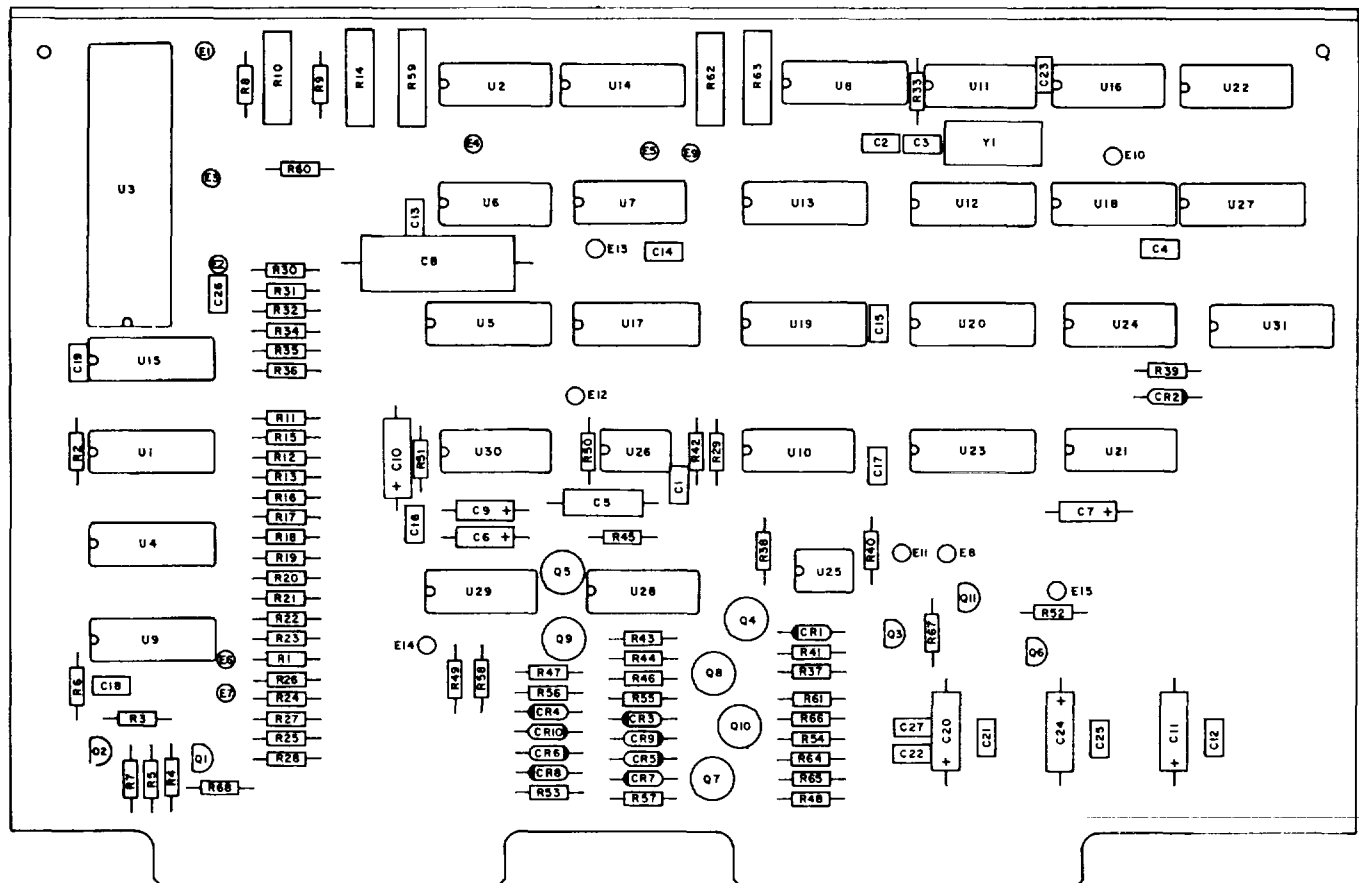

Figure 8-4. Operations Site (Remote) Modem Circuit Card Assembly, 4A3, Parts Location Diagram
d. Operations Site (Remote) Modem Circuit Card Assembly (4A3) Disassembly. This circuit card assembly should be removed only when servicing or component replacement is required. To remove this circuit card assembly, grasp both edges of the card and pull up. Further disassembly should be limited to removal of parts for repair or replacement. Refer to figure 8-4 for location of component to be replaced.